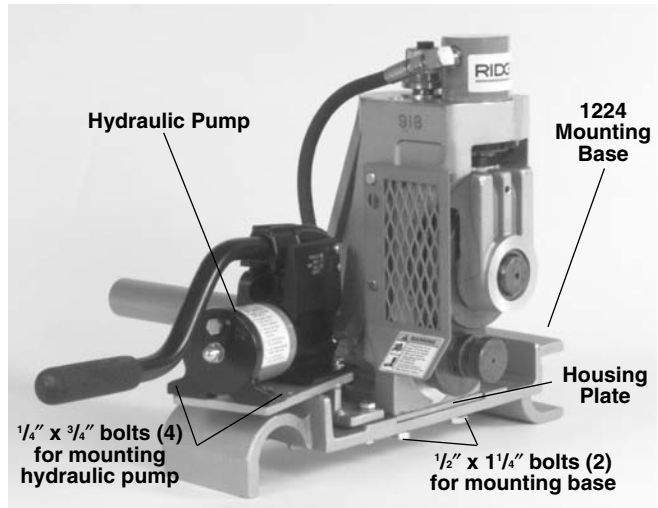

Figure 5 – 918 Heavy Duty Roll Groover on 1224 Threading Machine Mounting Base
2. Align 918 on the 1224 mounting base. (Figure 5)
3. Install and tighten the (2) 1/2" x 1 1/4" hex bolts which connect the 918 to mounting base.
4. Attach pump bracket with the two (2) 3/8" x 1/2" hex bolts.
5. Position hydraulic pump and securely bolt in place with (4) 1/4" x 3/4" hex bolts.
6. Attach drive bar adapter to roll groover by tightening (2) set screws.